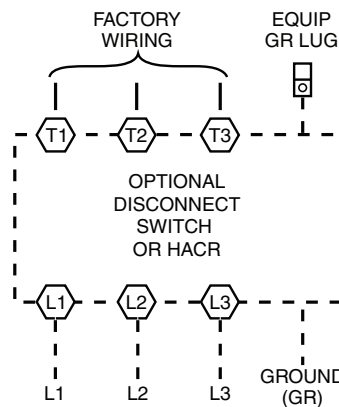

Fig. 43 — Power Wiring Connections
Size wire based on MCA (Minimum Circuit Amps) on the unit informative plate. See Fig. 43 for power wiring connections to the unit power terminal blocks and equipment ground. Maximum wire size is 2/0 AWG per pole.
3. Install power lines to terminal connections as shown in Fig. 43.